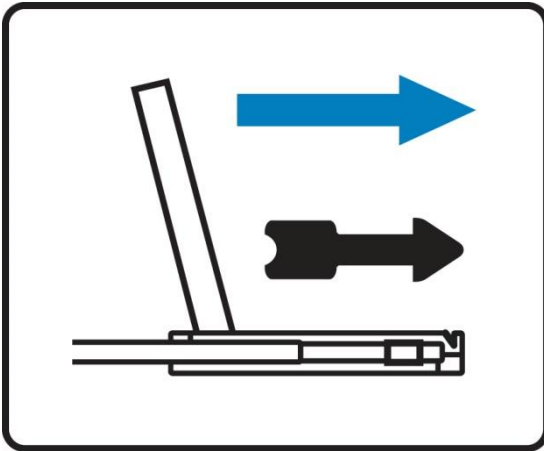

Figure 2.
- Pull and hold the black arrow button on either side of the LCD keyboard drawer to unlock. (Shown in **Figure 2**).